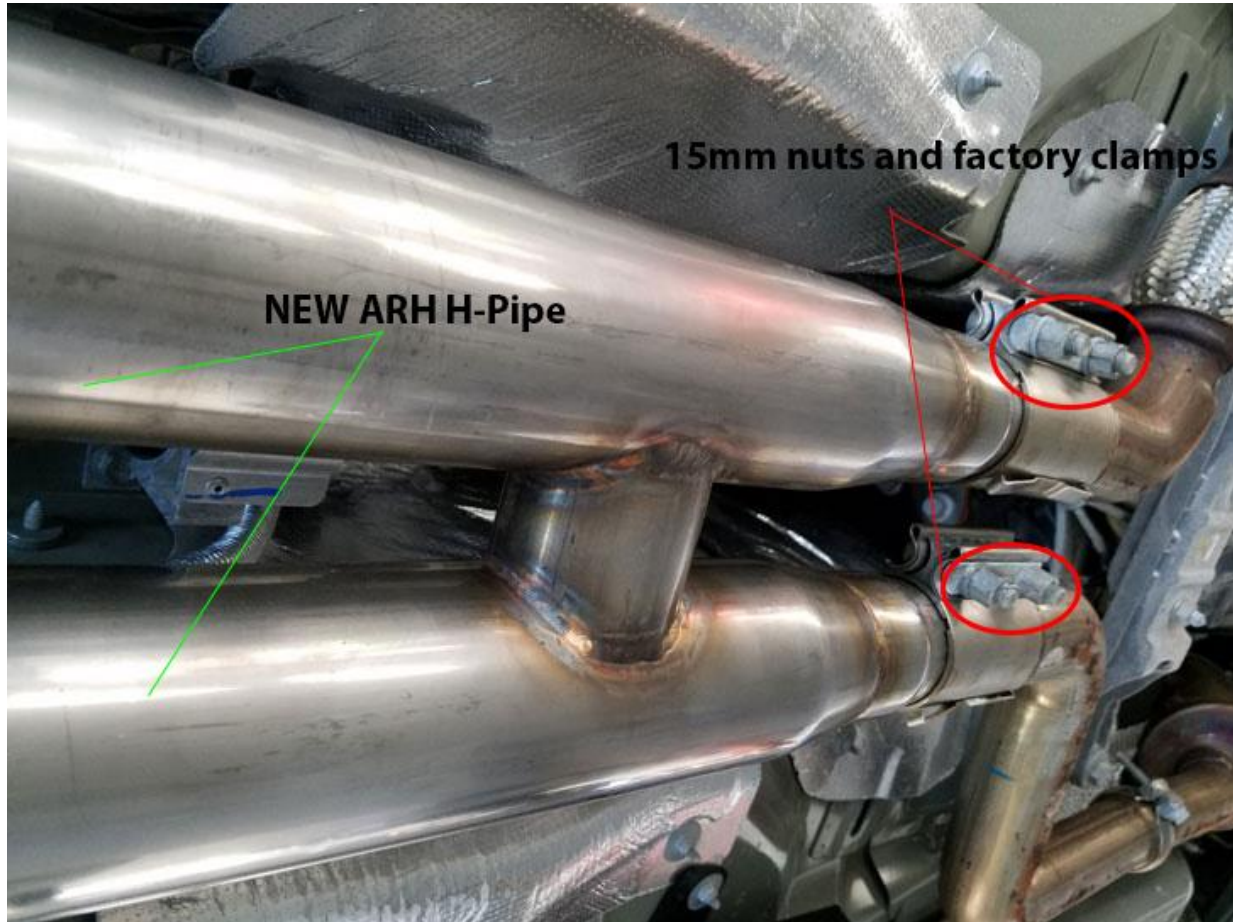

Figure 2a New ARH H-Pipe connected to factory catalytic converters using existing clamps.
1. Slide the ARH H-pipe (longer of the two sides on the driver's side) into the factory exhaust clamps that are still attached to the pipes exiting the catalytic converters and slide the clamps over the H-pipe towards the back of the car. **(See figure 2a.)**
2. Snug the 15mm nuts that are part of the clamps just enough that the H-pipe stays in place (See Figure 2a) but you can still move it if needed.